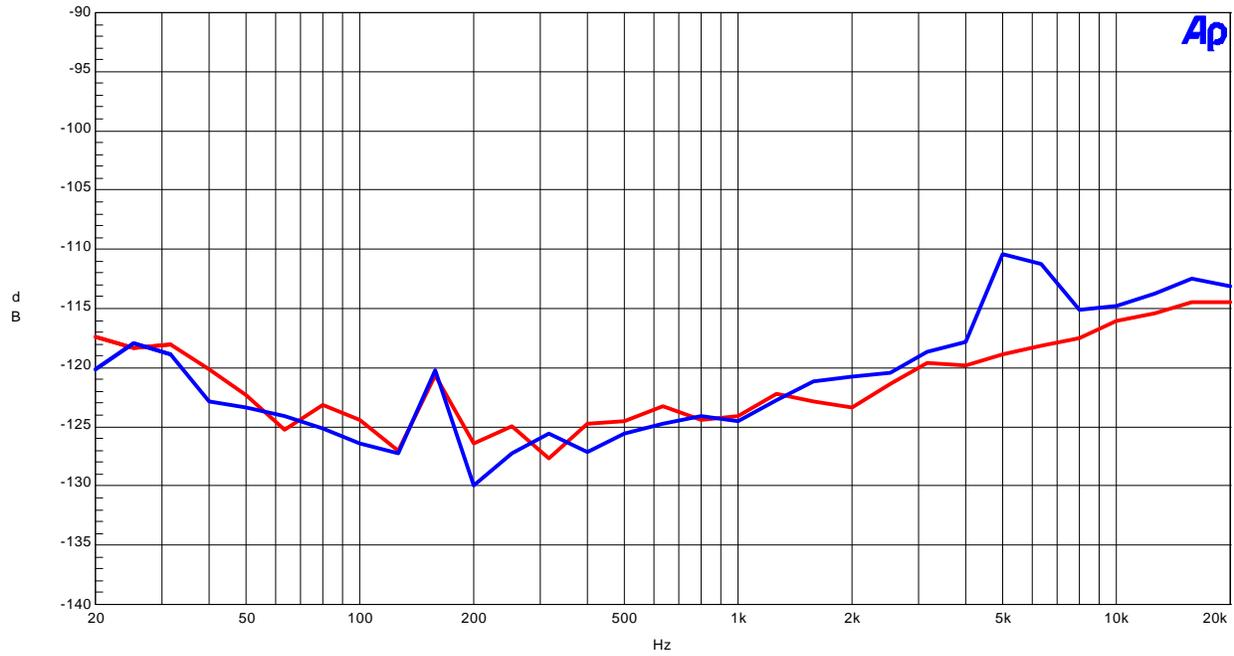

Figure14. Cross-talk (Input level=0dBFS)
- Figure14. Cross-talk (Input level=0dBFS)